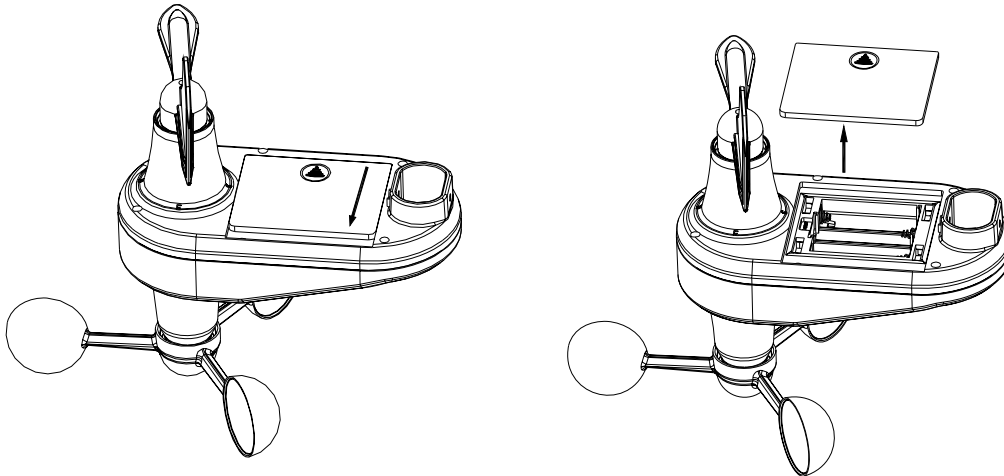

Figure 3
4.3.1 Insert batteries into the anemometer transmitter. Locate the battery boor on the wind transmitter, push and open the battery compartment, arrow direction as show in Figure 3.